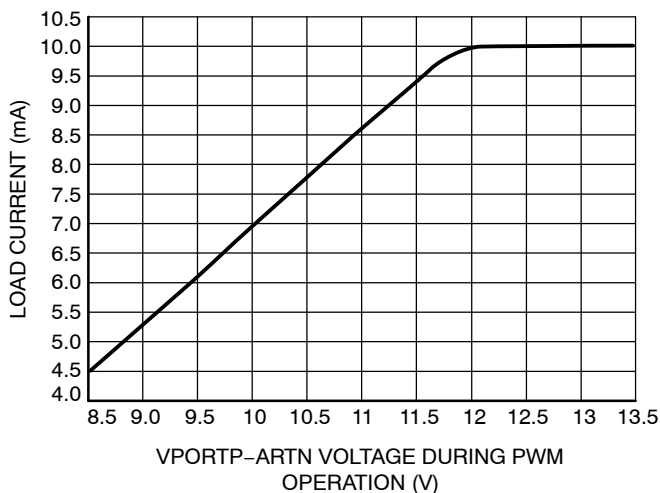

Figure 6. (Ivddl\_load)max with Auxiliary Supply Operation
10. See Figures 6 and 7 for specifications on the load current at lower or higher VPORTP - ARTN voltages. In case the application requires more current capability on VDDL and VDDH, it is recommended to externally supply the VDDH pin with a bias winding from the transformer or to add a diode between VAUX(+) and VDDH pin (verify the VAUX voltage does not exceed the VDDH voltage range).